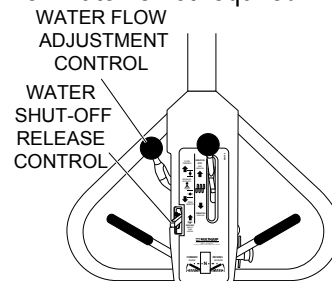

Figure 24. Water Flow Adjustment
1. Push the water shut-off release control to the release position (Figure 24).